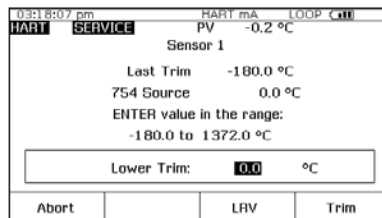

Figure 14.
5. If the As Found test failed (i.e., there were highlighted errors in the error summary table), adjustment is necessary. Press the **Adjust** softkey. Select **Sensor Trim** and press **ENTER**. Select **Perform user trim – both** and press **ENTER**. The 754 screen should look like Figure 14.